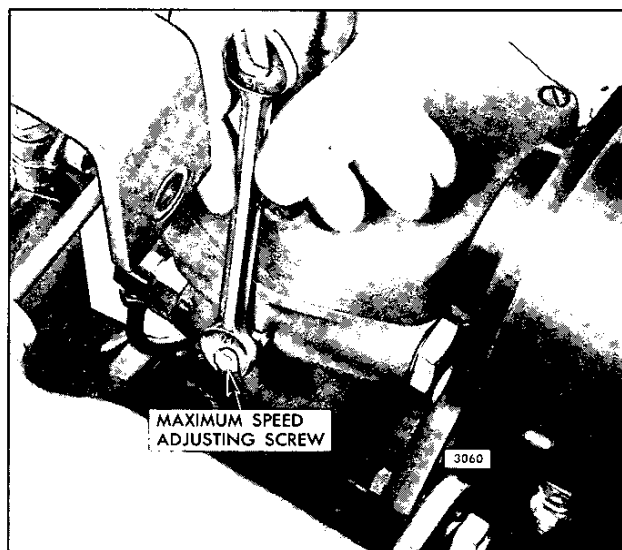

Fig. 5 – Adjusting Maximum Engine Speed
3. Loosen the locknut and back off the maximum speed adjusting screw approximately 5/8" (Fig. 5).
3. Turn the maximum speed adjusting screw in lightly until contact is felt with the linkage in the governor (Fig. 5).